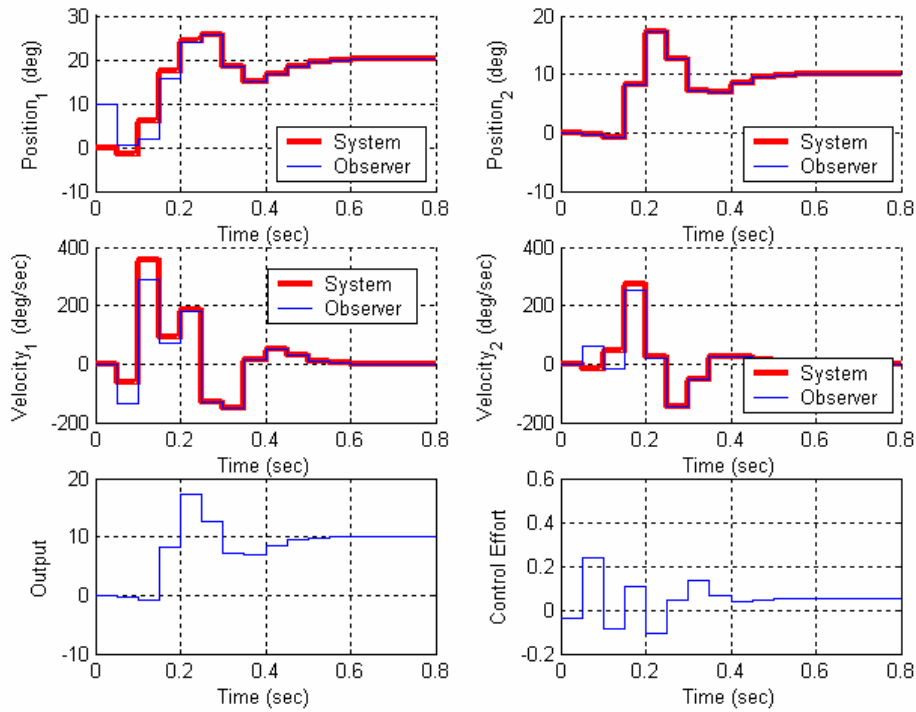

Figure 5: Results for problem 4b.
b) Place all the state feedback poles at 0.1, and the observer poles all at 0.06, 0.08, 0.1, and 0.12. Assume the position of the second disk is available to the observer and the system output is the position of the second disk. The estimated position of the first disk is assumed to be 10 degrees all other initial estimates are zero. The real system starts at rest. For a 10 degree step input you should get the graph shown in Figure 5. Turn in your plot.